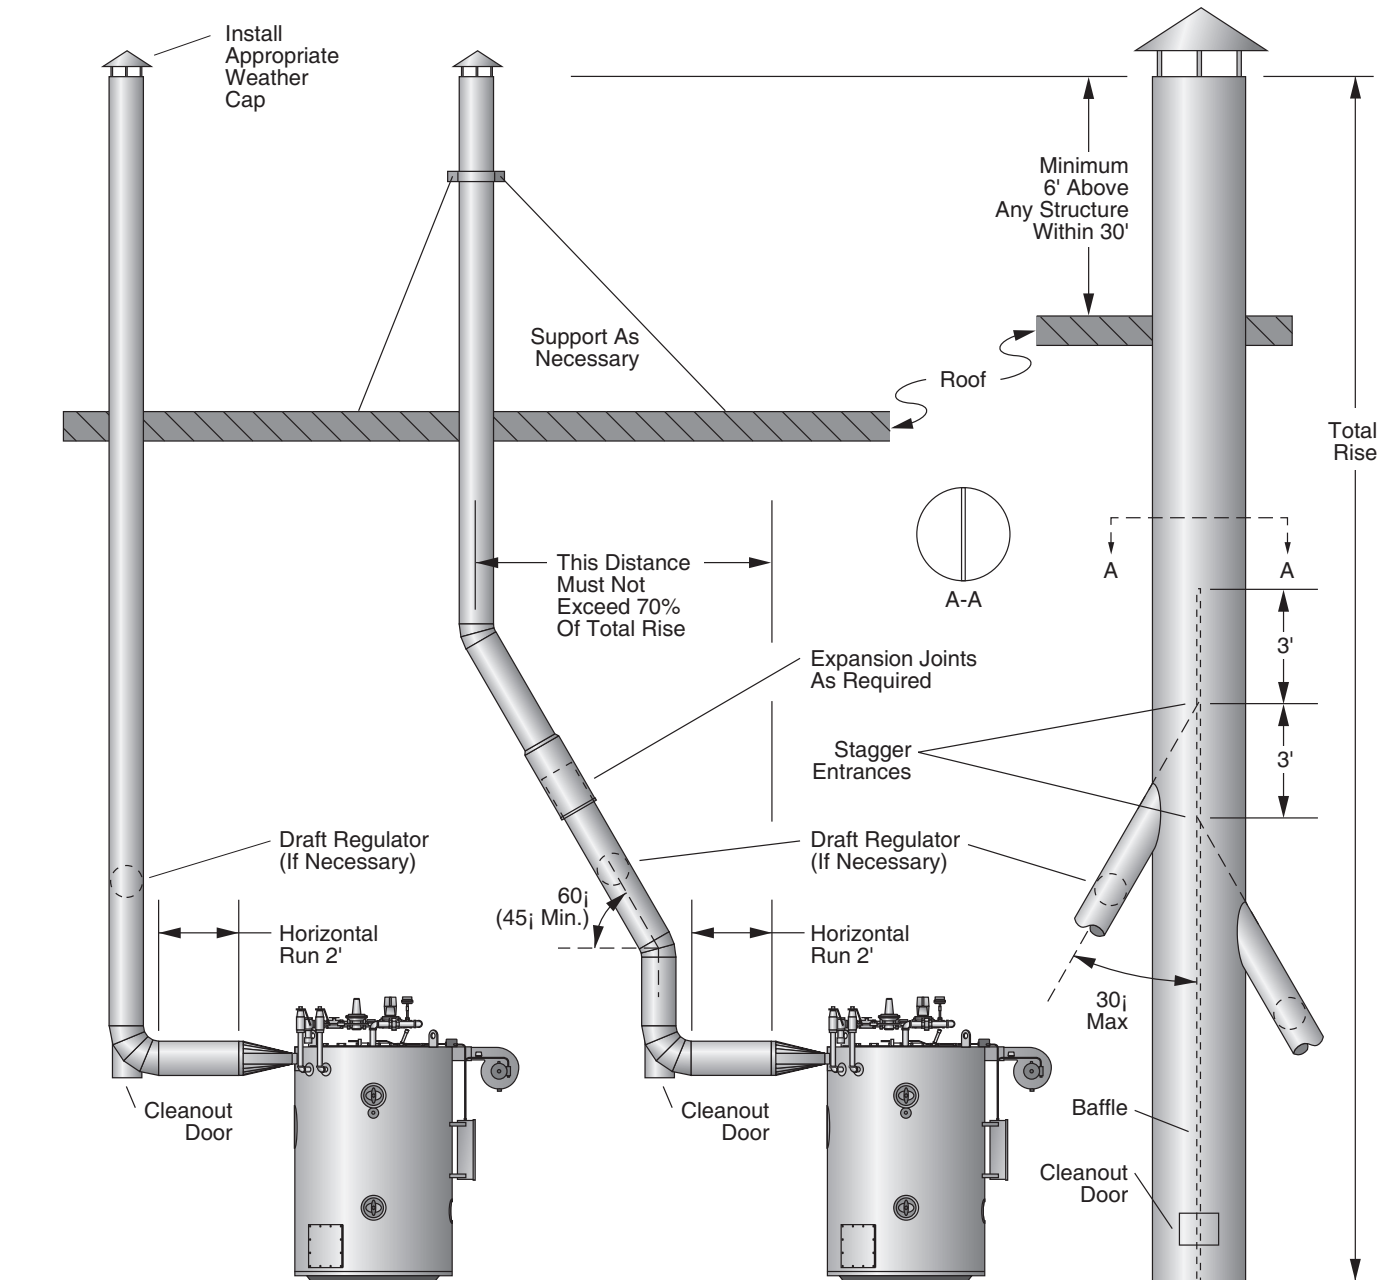

FIGURE 2 - TYPICAL STACK ARRANGEMENT
Adhere to the following for stack and flue installation (see Figure 2):
3. Ensure the run in the total distance of stack ducting, as measured in a straight line from the outlet of the boiler to the outlet of the stack, does not exceed 25% of the rise. With the exception of the duct run previously described, horizontal sections of ducting must be avoided and should not exceed 4 feet (1.2 m) total. See Figure 2.